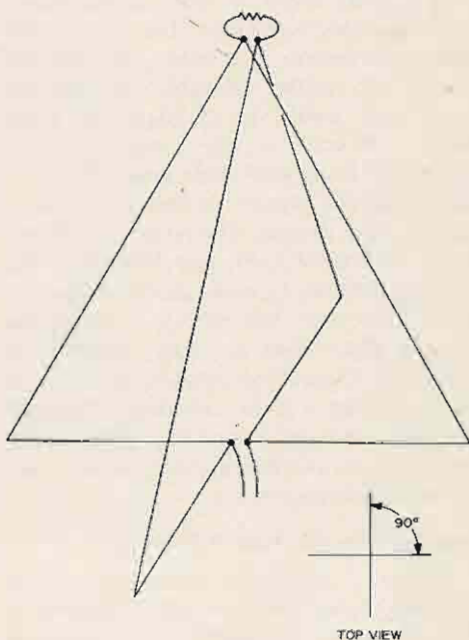
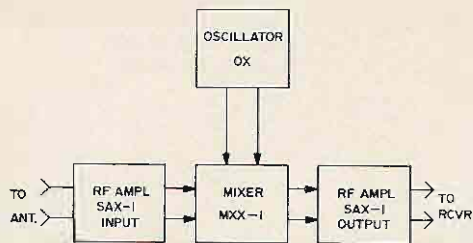

Fig. 2. The Double Delta consists of two Delta antennas placed at right angles to each other and phased in a manner similar to a turnstile antenna.
Fig. 1. Block diagram of converter.
Figure 2 shows how the basic two foregoing antenna ideas are combined to form the Double Delta antenna. As can be seen, it
Many variations on the basic design suggest themselves, especially if one were interested only in single-band operation. For instance, going back to Fig. 1 (A), one could use a variable capacitor to resonate the antenna "loop style" on a particular frequency. The Double Delta of Fig. 2 could then be constructed with a resonating capacitor in each Delta. This would increase the antenna efficiency by eliminating the dissipation loss in the terminating resistor. However, one would have to accept the feed point impedance thus produced and use a matching network, if necessary, at the feed terminals to couple to a transmission line.
We are now ready to begin construction. Refer to the block diagram of the converter (Fig. 1) and Table I to determine the kits to use for the band you want to listen to.